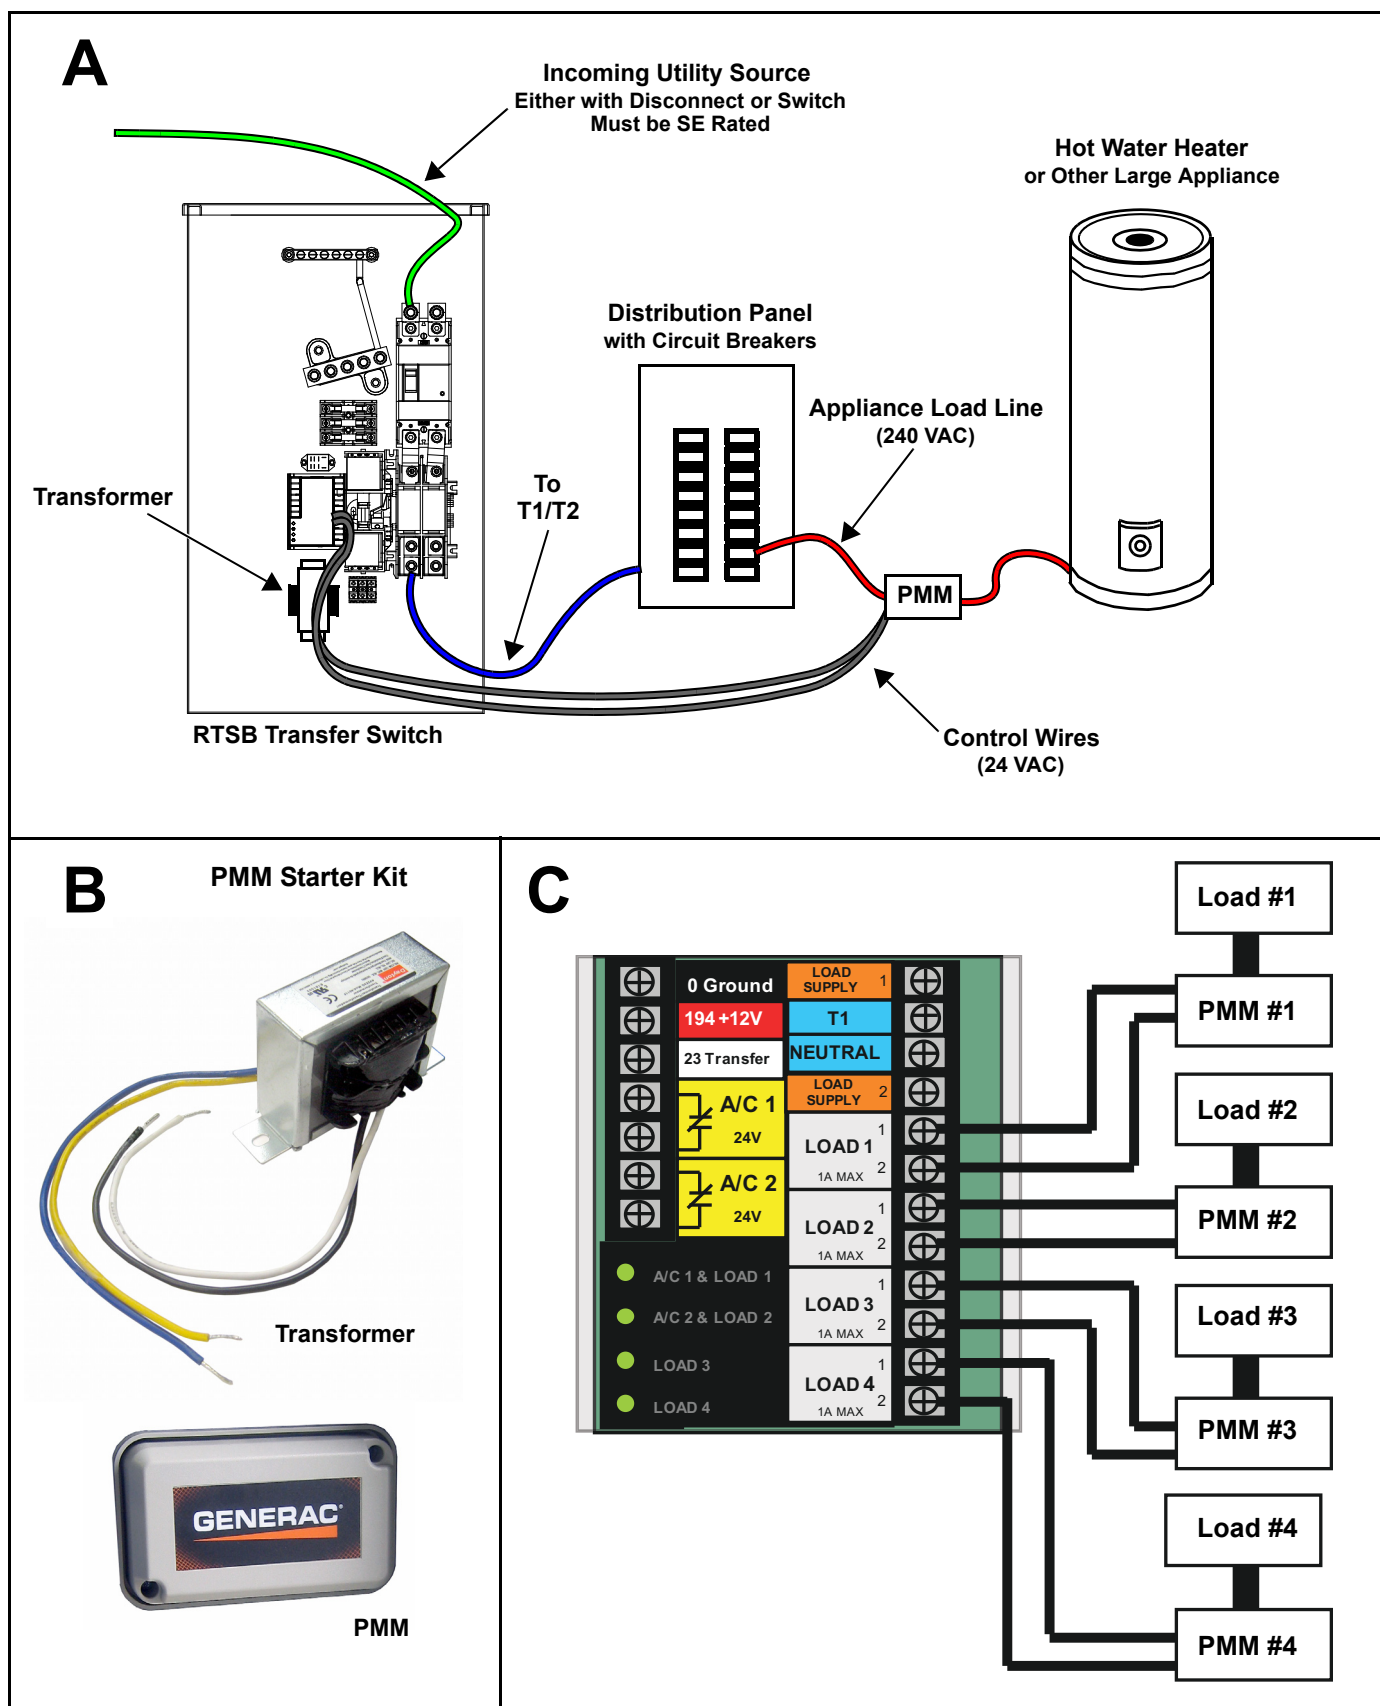

Figure 5-4. Connect PMM Wiring
NOTE: The Starter Kit must be purchased to enable use of PMMs. PMMs will not function without installation of the transformer included in the Starter Kit. See B of Figure 5-4.
See A of Figure 5-4.
3. Obtain Power Management Module (PMM) as required and connect to remaining general use contactors on the OPCB terminal strip. See C of Figure 5-4.